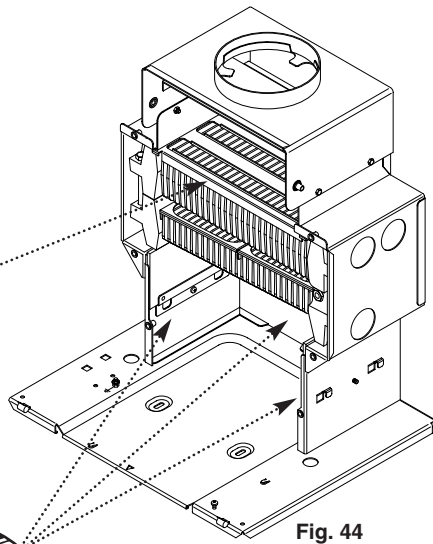

Fig. 44
2. Remove the side and rear insulation pieces by undoing the screws retaining the support brackets and sliding the rear bracket to the left and both side brackets forward (Fig. 44, 45, 46 & 47).